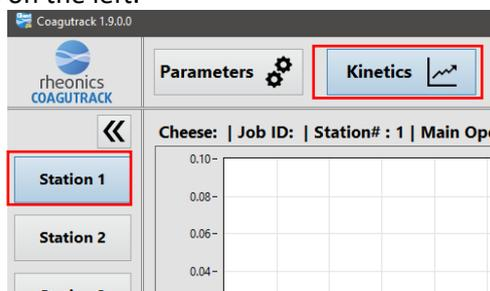

Figure 20 Entering kinetics interface
1. Click on the Kinetics button at the top to go to the kinetics interface, make sure you are at the station where you created the job, if not, you can switch stations using the buttons on the left. (Figure 20)